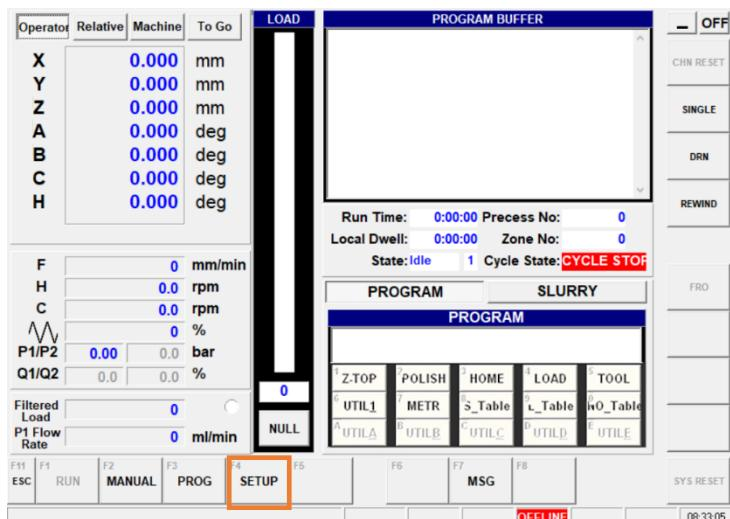

Figure 38 - Main GUI screen - Setup
9. Press the “Setup” button. See (Figure 38 - Main GUI screen - Setup).